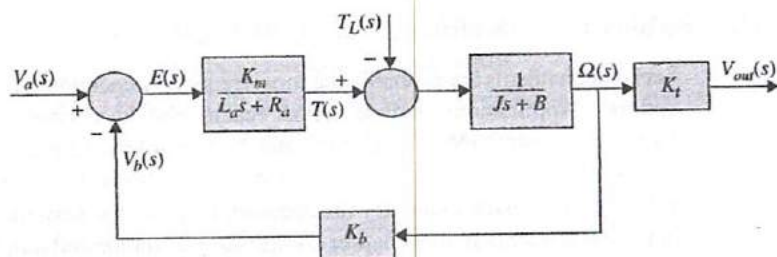

Figure 5-25 Block diagram of an armature-controlled dc motor.
- 6-1.** Create a model of the motor shown in Fig. 5-25. Use the following parameter values: $J_m = 0.0004 \text{ kg}\cdot\text{m}^2$; $B = 0.001 \text{ Nm/rad/sec}$; $R_a = 2 \text{ }\Omega$; $L_a = 0.008 \text{ H}$; $K_m = 0.1 \text{ Nm/A}$, and $K_b = 0.1 \text{ V/rad/sec}$. Assume that the load torque T_L is zero. Apply a 5-V step input to the motor, and record the motor speed and the current drawn by the motor (requires modification of SIMLab blocks by making current the output) for 10 sec following the step input.
As shown in Fig. 5-25, the armature-controlled dc motor is itself a feedback system, where back-emf voltage is proportional to the speed of the motor. In Fig. 5-25, we have included the effect of any possible external load (e.g., the load applied to a juice machine by the operator pushing in the fruit) as a disturbance torque T_L . The system may be arranged in input-output form such that $V_a(s)$ is the input and $\Omega(s)$ is the output: